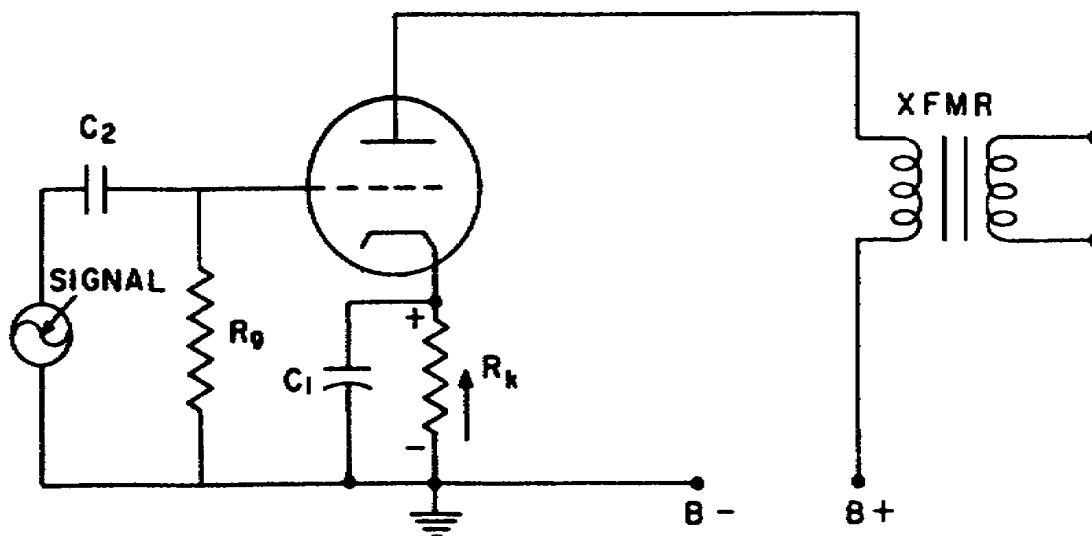

Figure 94. Cathode biasing with a cathode resistor.
9. The second method of obtaining grid bias is called cathode bias. The cathode bias method uses a resistor (R_k) connected in series with the cathode, as shown in figure 94. As the tube conducts, current is in such a direction that the end of the resistor nearest the cathode is positive. The voltage drop across R_k makes the grid negative with respect to the cathode. This negative grid bias is obtained from the steady d.c. across R_k . The amount of grid bias on the triode tube is determined by the voltage drop (IR) across R_k .